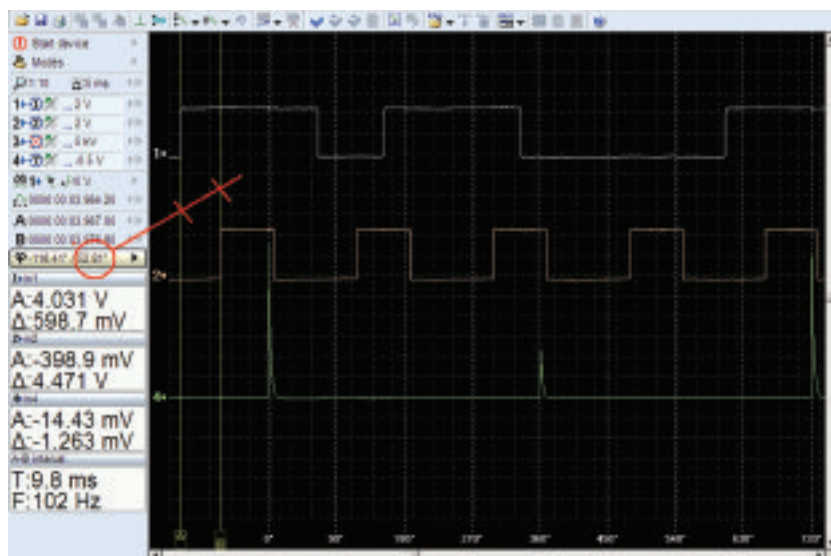

Figure 5: Reference waveforms, known-good sensor.
**Figure 5** shows our reference waveform. It contains the CMP on channel one, the CKP on channel two and ignition on channel three. Using these waveforms we can determine that the rising edge of the signal from the CMP occurs approximately 53 degrees before the rising edge of the signal from the CKP.